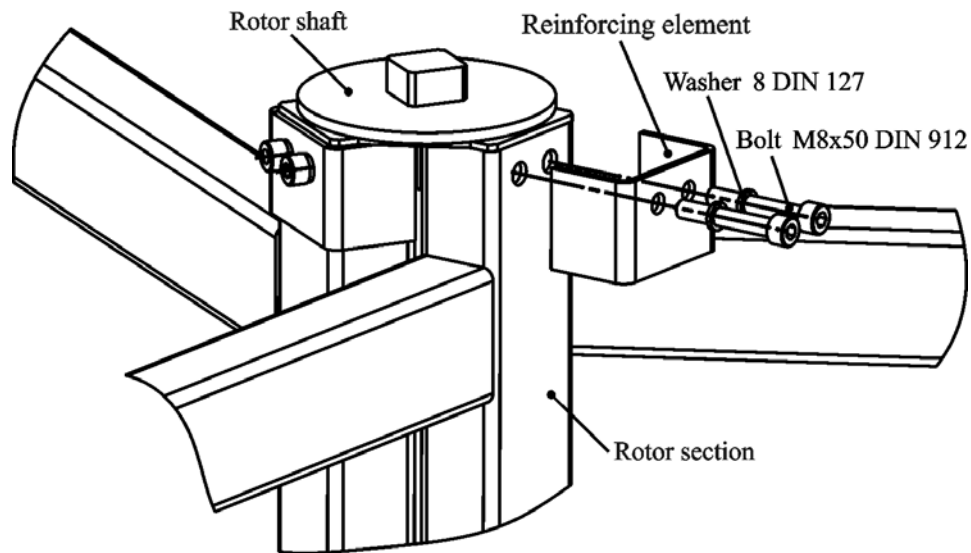

Fig.11A. Juncture of the rotor reinforcing elements
** The square washers and plate are placed inside the top channel (13) when delivered.
- install the reinforcing element on the top of the standard rotor section and fix the sections by 2 M8x50 bolts with spring washers 8 (Fig. 11A);